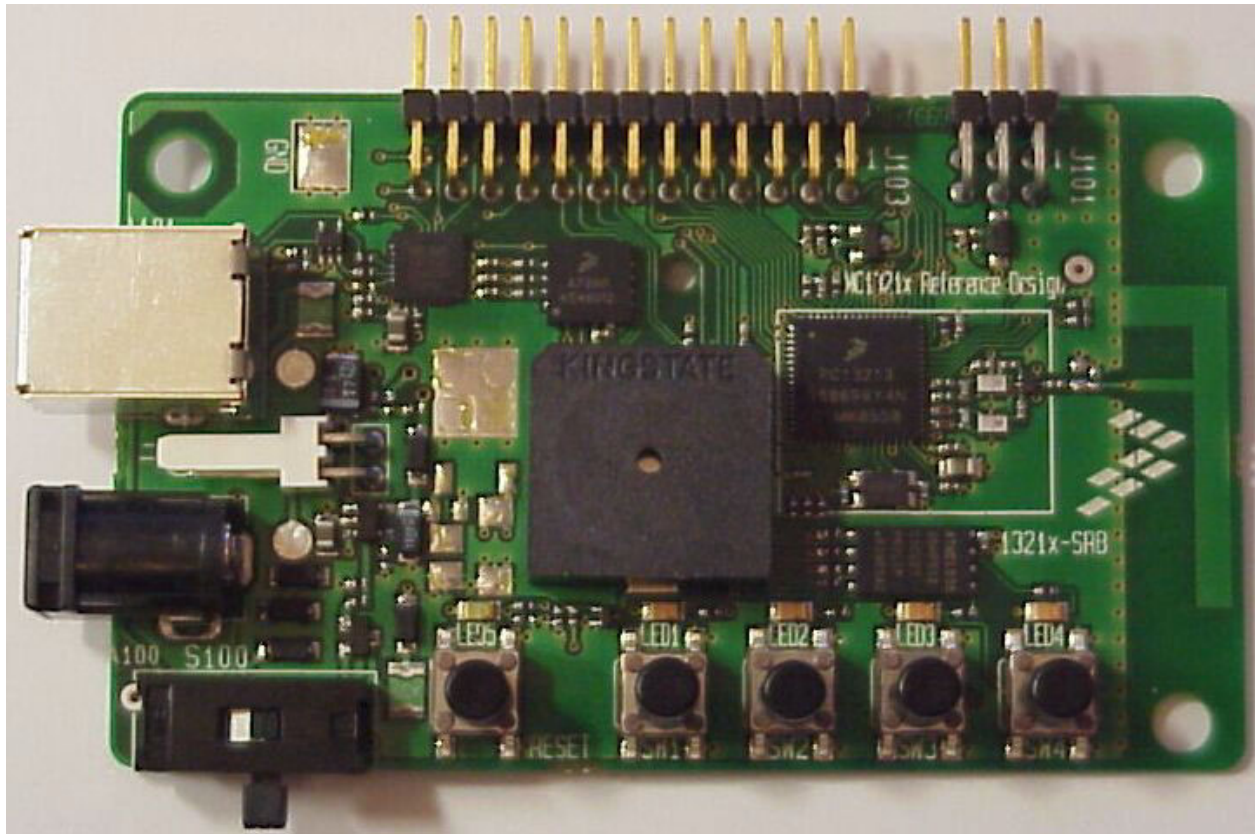

Figure 2-2. 13213-SRB
- 13213-SRB Sensor Reference Board as shown in Figure 2-2.